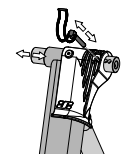

Figure 5.
2. Remove the pin from the lever and adjustment bolt and slide the adjustment bolt until the correct hole is aligned and then reinsert the shaft locking pin. See Figure 5